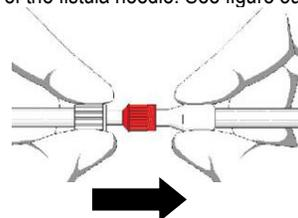

Figure 5a: Fistula Needle Connection: Insertion Technique.
1. Firmly insert the male luer of the bloodline into the female luer of the fistula needle. See figure 5a.